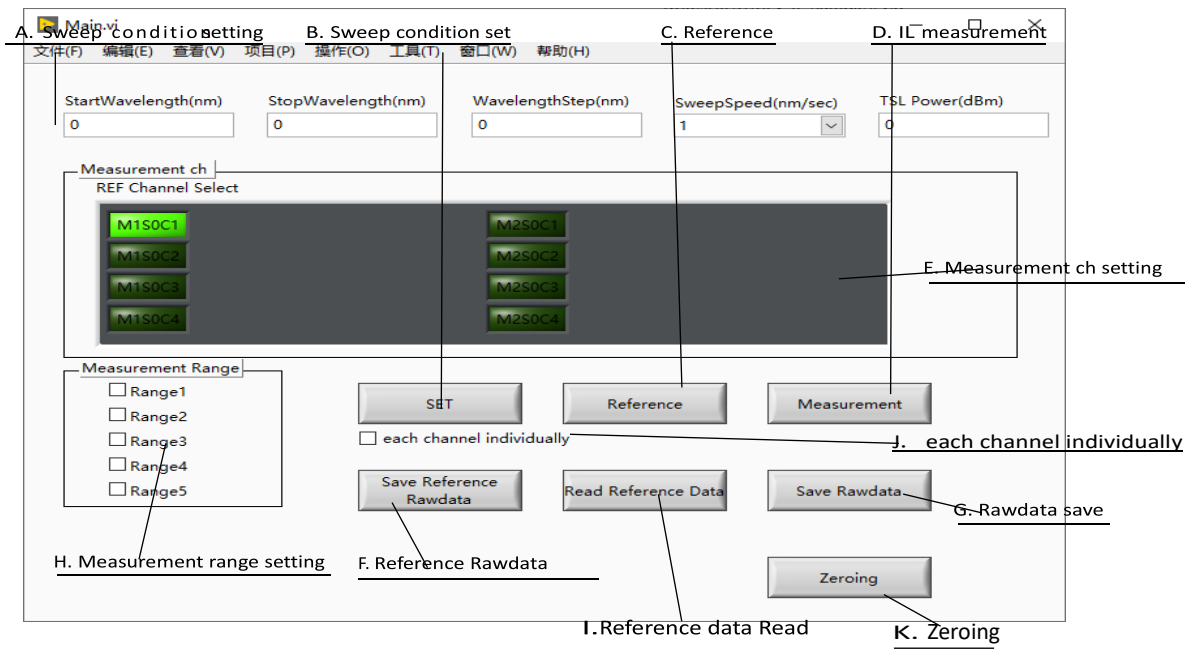

Figure 3. IL-STS Sample Software Window
- After setting up each measuring instrument in Figure 2, press the "Connect" button and the STS IL Demo software interface is shown in Figure 3.